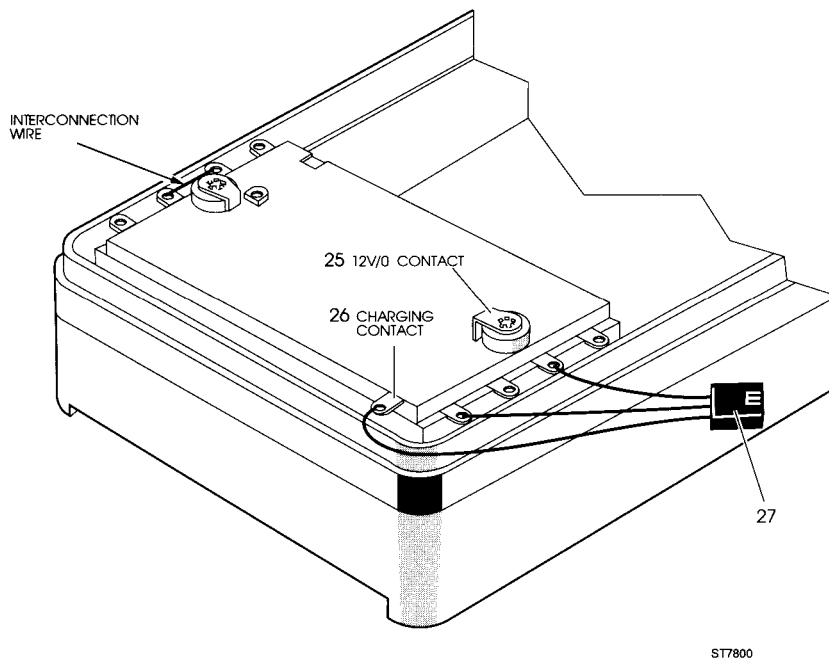

Figure 7.6 *Wiring assembly replacement*
3. Unsolder the small battery contact interconnection wire (see figure 7.6).